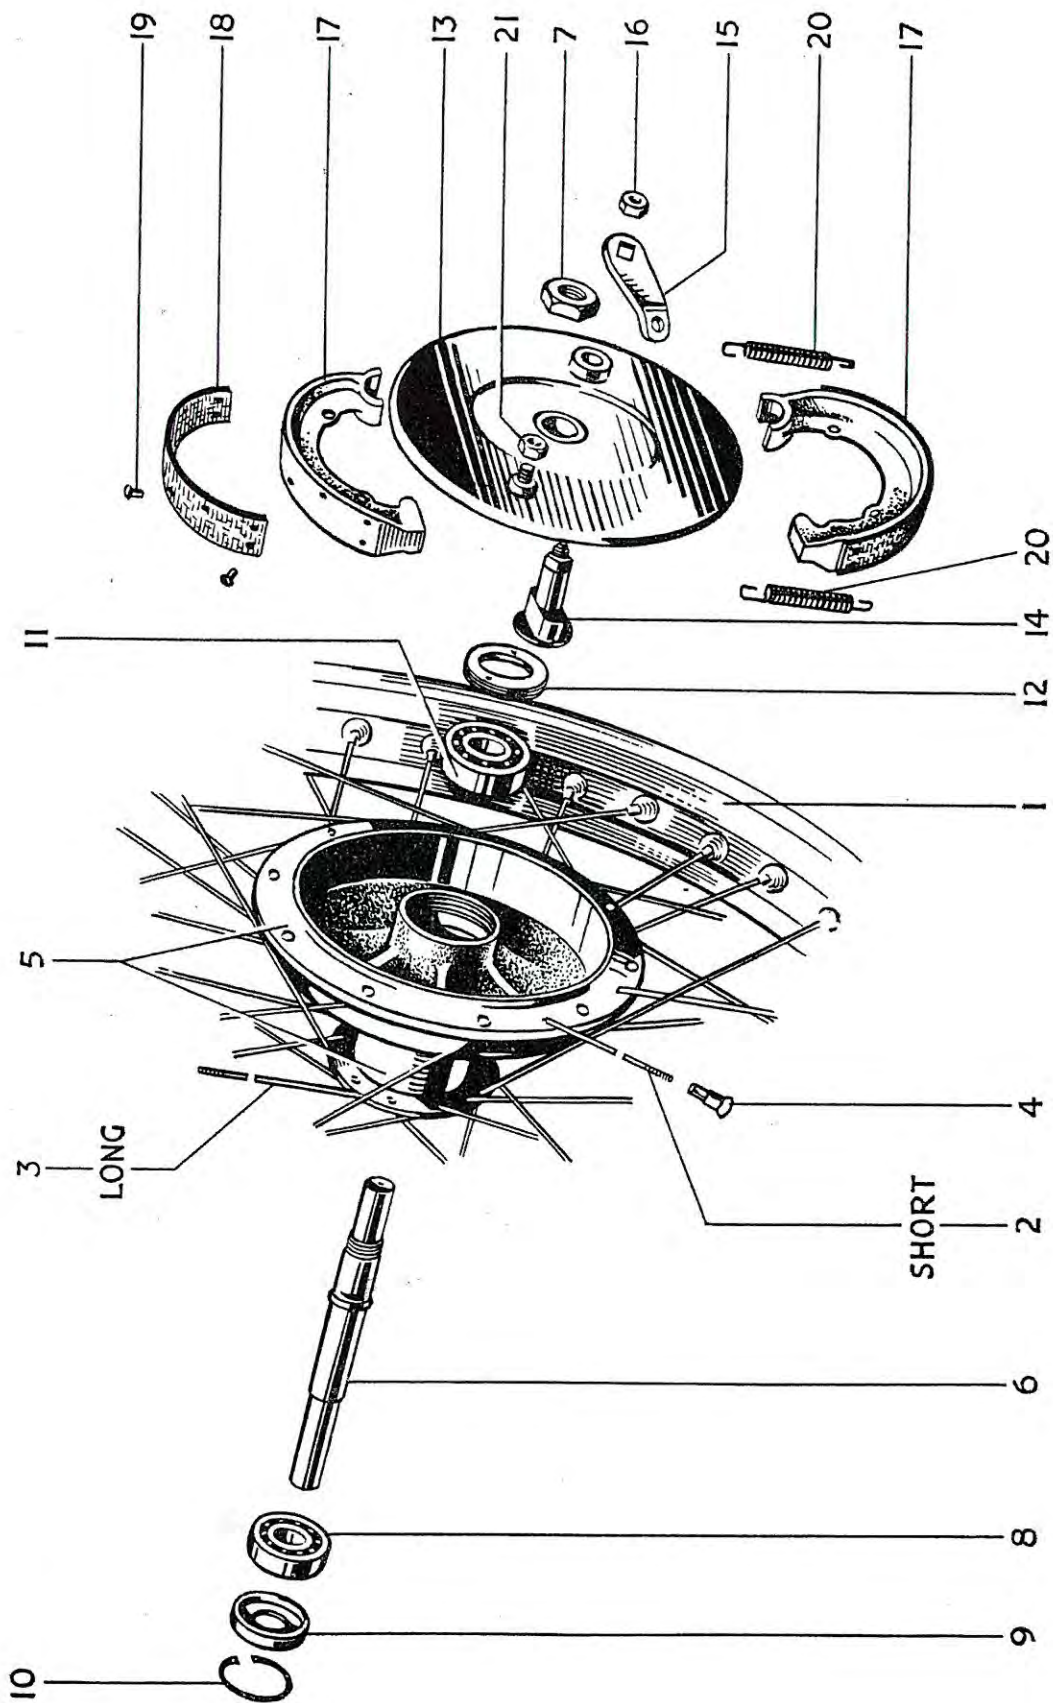

FIG. 7. FRONT WHEEL.
*Illustrated on Pages 26 and 28—Figs. 7 and 8*
### INDEX TO FIG. 7. PAGE 26.